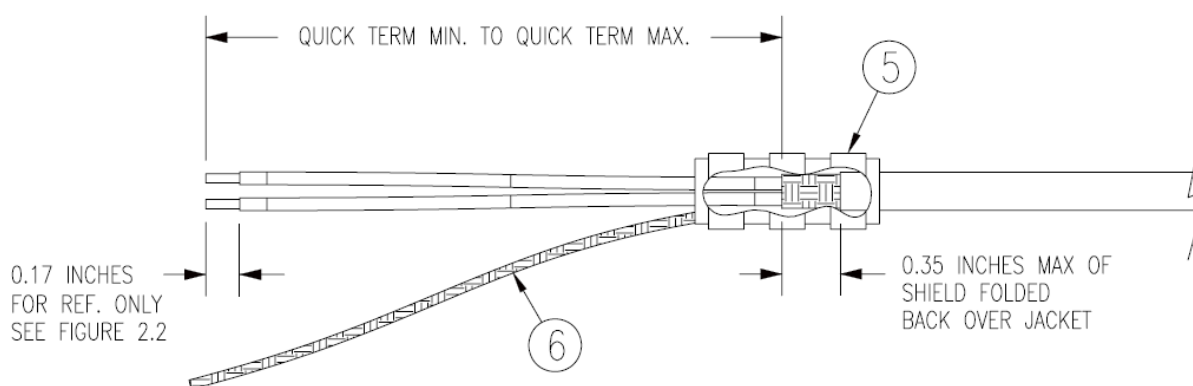

Figure B-19. Quick Term Shield Termination
If desired, the drain wire termination (item 5) and the floating shield termination (item 7) can be effectively combined into a “Quick Term”. This method eliminates the float in the cable insulation and moves the placement of the window which was described by the dimensions “Window Min” and “Window Max” from Method A. This technique is depicted in Figure B-19.
1. At the end of the shielded cable (item 4), strip “Quick Term Min” to “Quick Term Max” (Table B-12) length of the jacket to expose the shield. Next trim the shield so that at most 0.35 inches remains extending beyond the insulating jacket. Fold this remaining shield back over the jacket.
2. Connect a flat braid (item 6) to the folded back shield of the prepared cable assembly. The flat braid should go out the front of the termination towards the connector. It is not permitted to exit the rear of the termination and loop back towards the connector (Figure B-19). Make this connection using an approved shield termination technique.